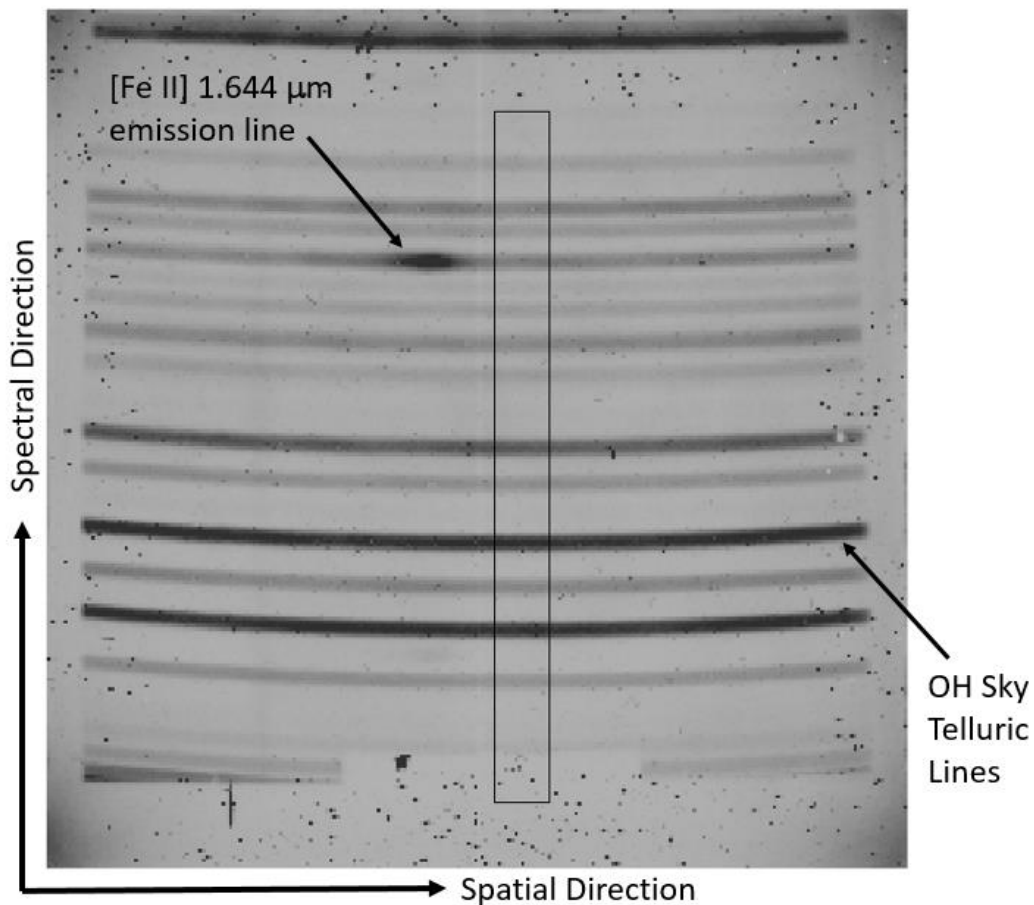
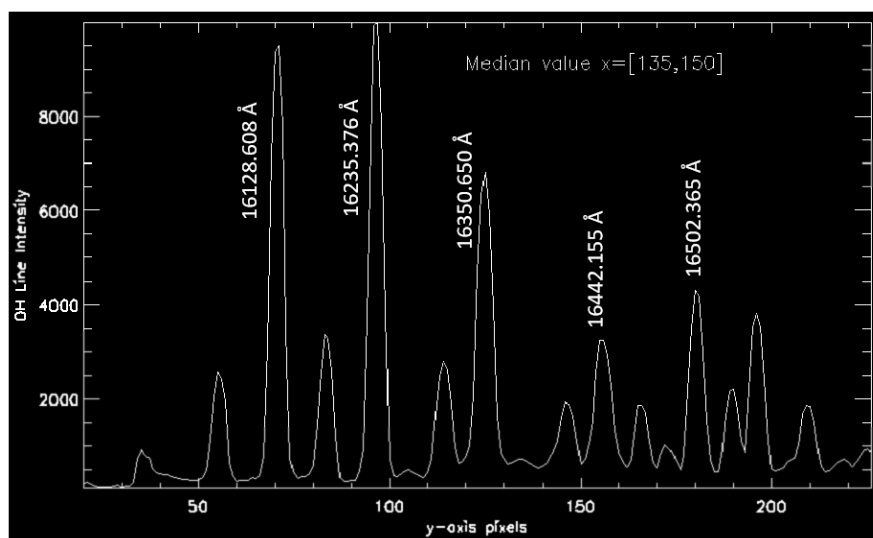

Figure 6. Dispersed image of ionized iron gas from a supernova explosion.
Figure 7. Spectrum of the OH telluric sky lines in Figure 6. Five bright lines are identified with their wavelengths.
You can see that it is dominated by the OH sky lines, but there exists clear [Fe II] 1.644 micron emission almost overlapping with one of the OH lines. Figure 7 is a spectrum of the OH lines in Figure 6 created by using the area in the rectangle Figure 6 by taking the median value of each row in the rectangle.
Now you can calculate the velocity of the iron gas in Figure 6 using the observed wavelength of the [Fe II] 1.644 micron line. You need to follow the following steps for this:
1. In addition to the five already identified OH lines, identify as many more OH lines as possible from a region near the [Fe II] emission (e.g., the rectangular box) in Figure 6.
4. Determine the central position of the [Fe II] emission in Figure 6 in y-axis, and then apply the wavelength solution that you already obtained above using OH sky lines to estimate the wavelength of [Fe II] emission in Figure 6. The intrinsic wavelength of the [Fe II] 1.644 μm line emission is 1.6439981 μm . What's the velocity of the gas emitting the [Fe II] emission in Figure 6?